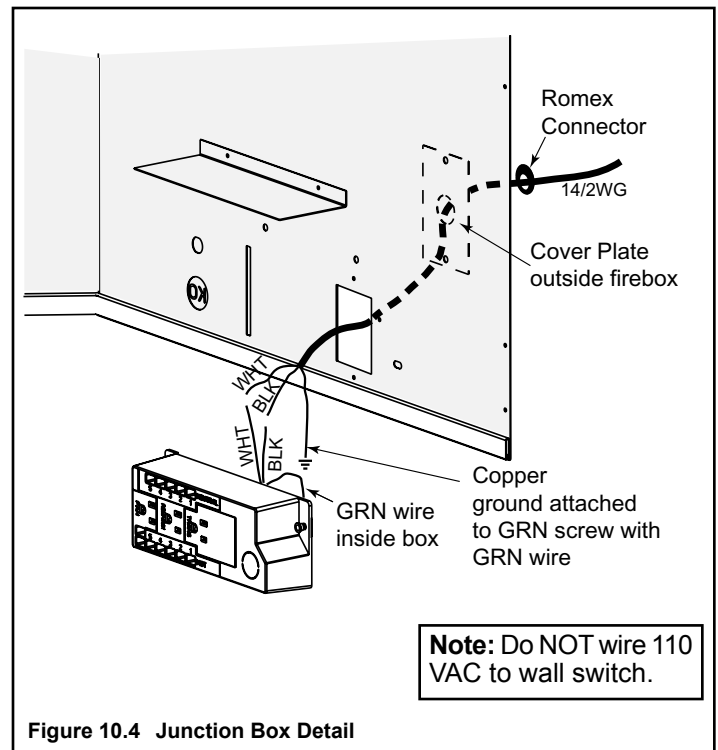

Figure 10.4 Junction Box Detail
- Remove the cover plate located on the outer shell - right side (see Figure 10.4).
- Remove the screw attaching the junction box/receptacle to the outer shell, rotate the junction box inward to disengage it from the outer shell (see Figure 10.4).